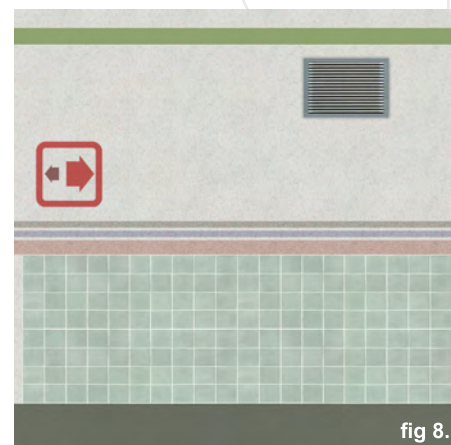

fig 8.
2. The first thing I did as usual was the floor and walls and these were made up of just a few images from V6. The floor composed of a single texture that was colour corrected to match the scene and similarly the ceiling which also had a couple of vents overlayed to add interest. For the walls I used a base texture of a worktop and then pasted in a bottom row of tiles and a duplicate ceiling vent. The arrow sign was taken from V7 (Sci-Fi) and the lines were simply painted in on a separate layer set to Overlay (Fig.8). In fact all the signs and numbers in the scene were taken from V7 and most of the surfaces were made up from as little as one or two textures. The far door at the end of the corridor is not actually modelled and